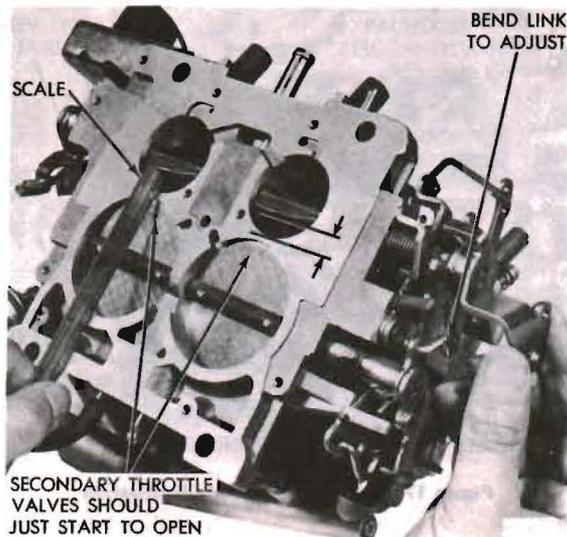

Figure 20. Checking Secondary Throttle Adjustment
- (1) Check the secondary throttle linkage adjustment, by blocking the choke valve in the wide open position and inverting the carburetor. Slowly open the primary throttle valves until it is possible to measure the specified distance between the lower edge of the primary throttle valve and the bore (opposite idle port). (See figure 20.) At this measurement, the secondary valves should just start to open.
- (2) If an adjustment is necessary, using pliers, bend the secondary throttle operating rod at the angle until correct adjustment has been obtained.